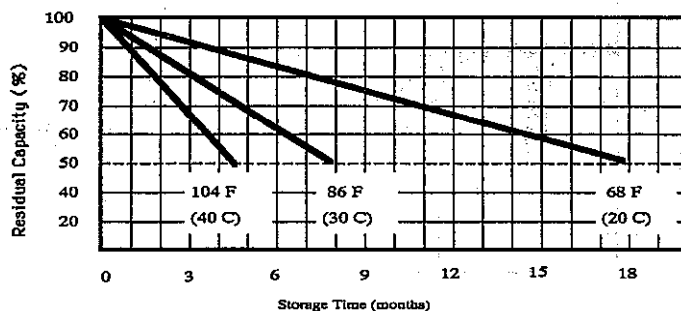

Figure 1
3.5.1 A fully charged BB-490/U rechargeable sealed lead acid battery will lose its energy (capacity) very gradually while it is being stored. The amount of capacity lost during storage depends on the temperature and time in storage. This is shown in Figure 1.